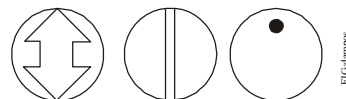

Figure 7: Damper position
1. Check that the damper blade is visible or its position is permanently marked on the end of the damper shaft, as illustrated in Figure 7.